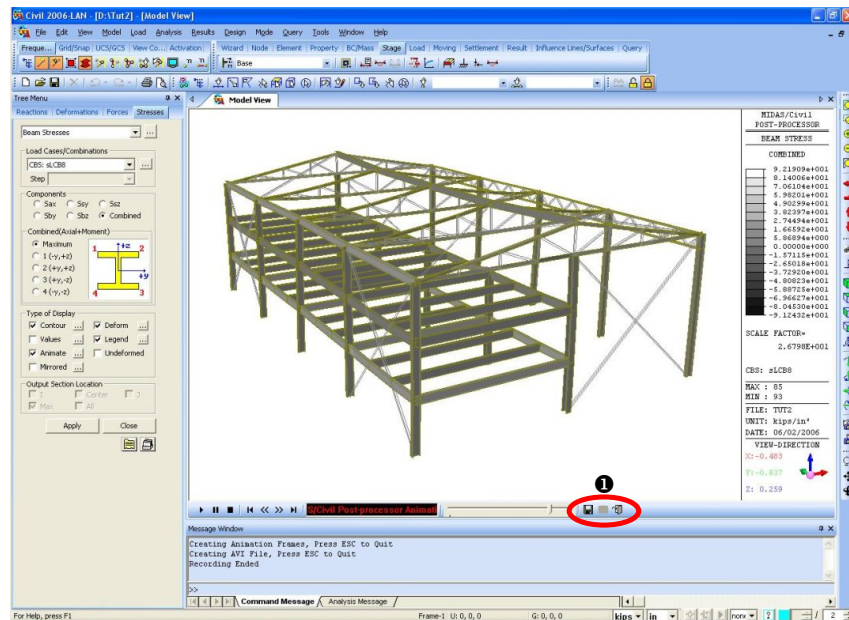

Figure 2.36 Animation Window
1. Check (✓) **Animate** in **Type of Display** (Fig.2.36) and remove the check in **Legend**.
3. Click **Record** as shown in Fig.2.36–1.